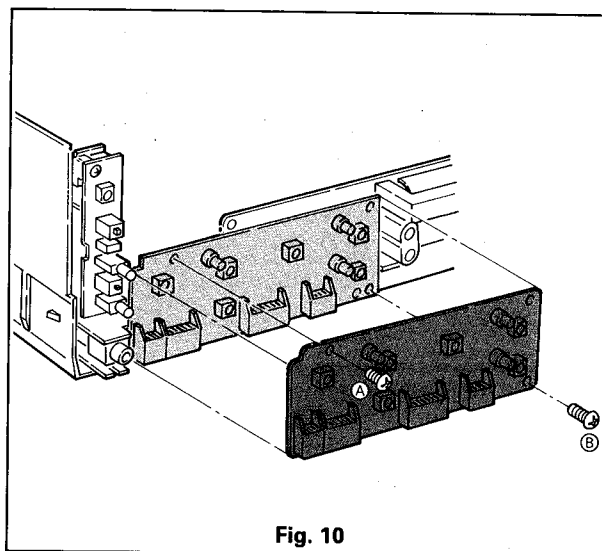

Fig. 10
- A. Remove the two screws (A and B) retaining the PCB OPE as shown in Fig. 10.